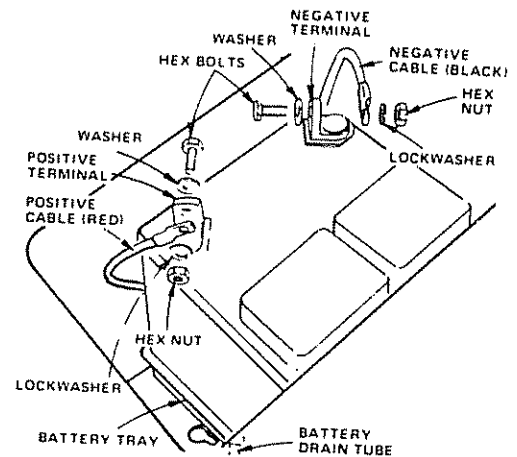

FIGURE 4
- Lower battery into fender well with battery terminals toward front of tractor (Fig. 4). Make sure battery rests in battery tray (Fig. 4).
- Connect **RED** battery cable to positive (+) battery terminal with hex bolt, flat washer, lockwasher and hex nut (shown full size on pg. 6) found in bag of parts. Tighten securely with two 7/16" wrenches. (Fig. 4)
- Connect **BLACK** ground cable to negative (-) battery terminal with remaining hex bolt, flat washer, lockwasher and hex nut (shown full size on pg. 6) found in bag of parts. Tighten securely. (Fig. 4)